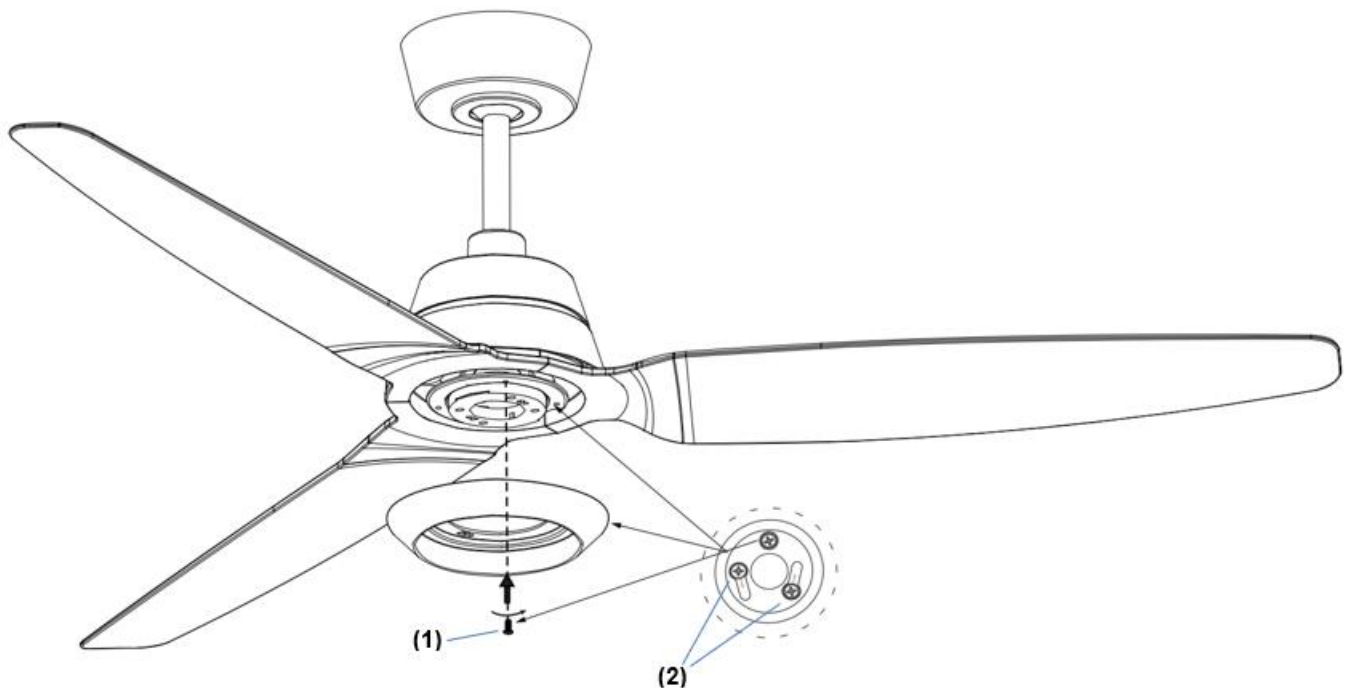

Fig. 6
INSTALLATION OF LIGHT KIT (Fig. 6)
- Loosen the screw (1) from the fan bracket. (Fig. 6)
- Align the two slot screws with the keyhole slots (2) of the light kit plate. (Fig. 6)
- Turn the light kit plate counterclockwise until the slot screws are firmly at the end of the slots (2).
- Secure screw (1) to the lamp shade bracket. Tighten all three screws. Do not over-tighten.